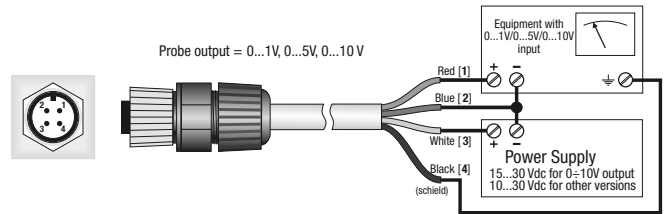

Fig. 8
- LP PYRHE 16 AV should be connected to a power supply device as well as to a multimeter according to the scheme below reported (figure 8); the load resistance for signal readout should be ≥ 100 KΩ: